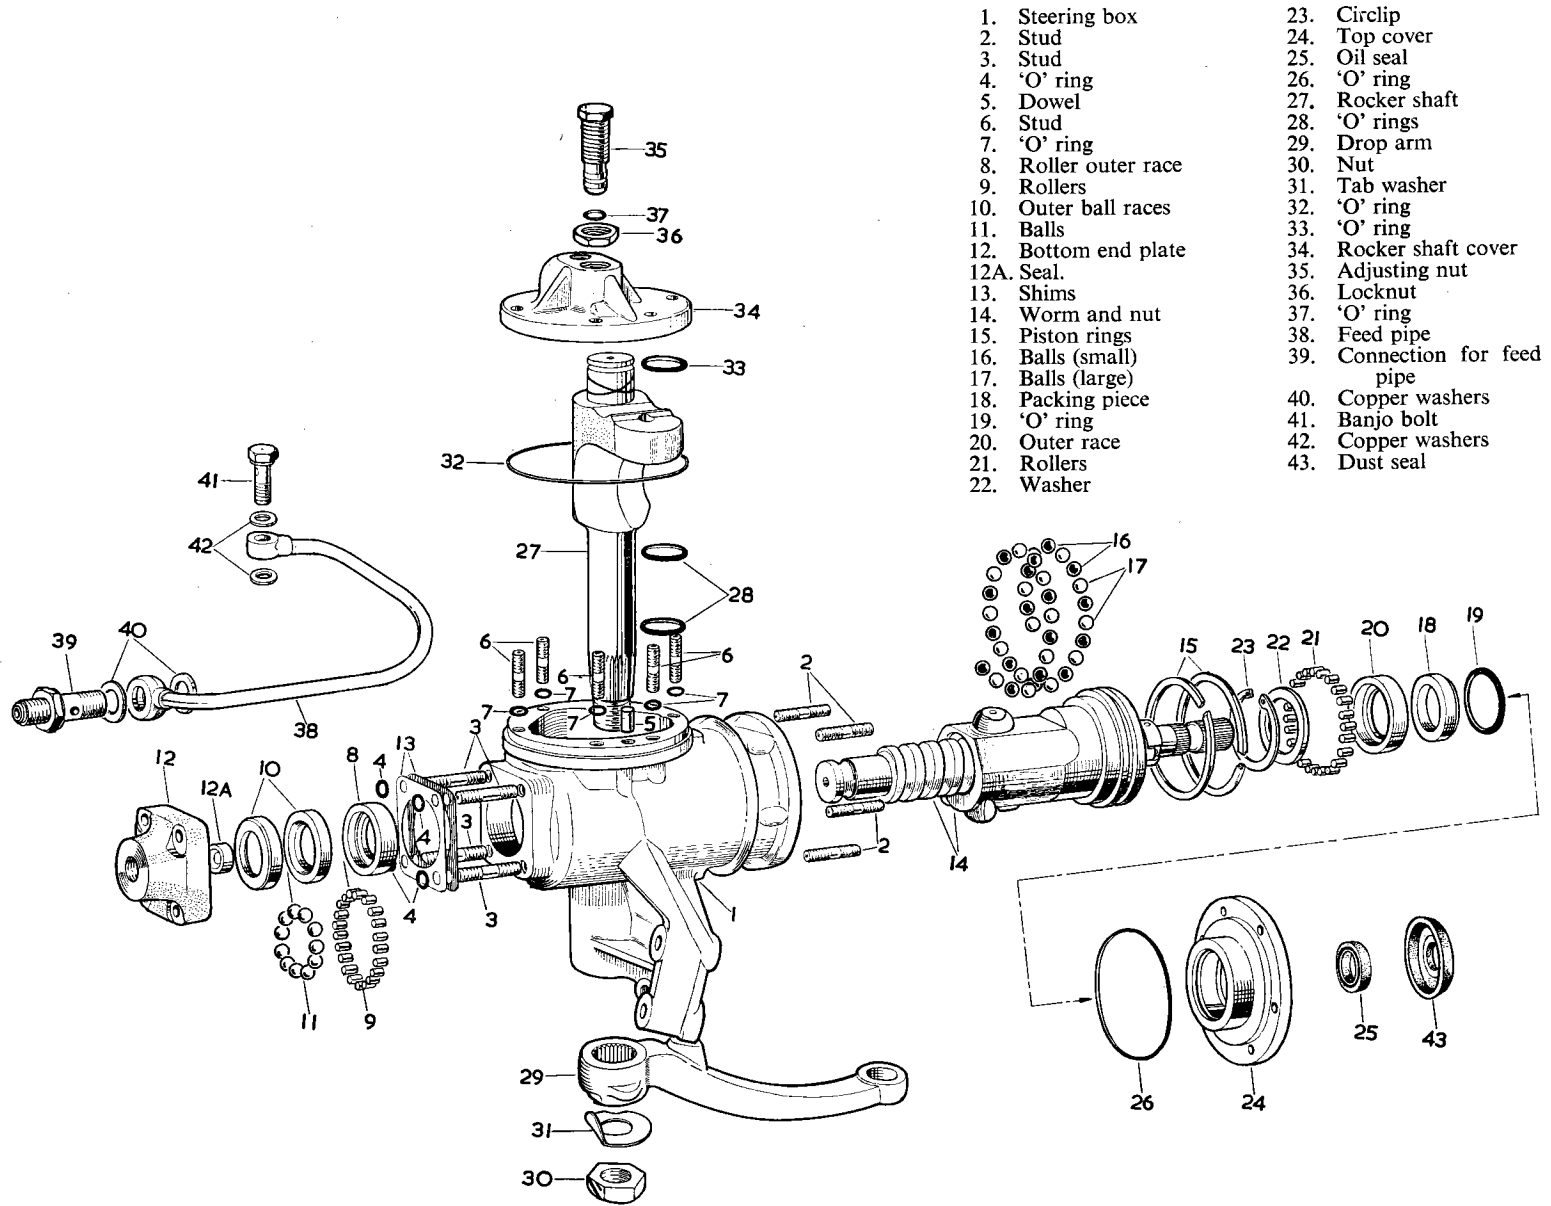

Fig. 6. Exploded view of the steering unit (right-hand drive illustrated)
Tap back the tab washer and unscrew the nut (30, Fig. 6) and with a suitable extractor withdraw the drop arm (29) from the rocker shaft. With the steering box held in a vice by the mounting boss and a suitable tray placed underneath it to catch the oil, remove the feed pipe assembly from the lower end cover and rocker shaft cover. Remove the six nuts securing the rocker shaft cover to the steering box.